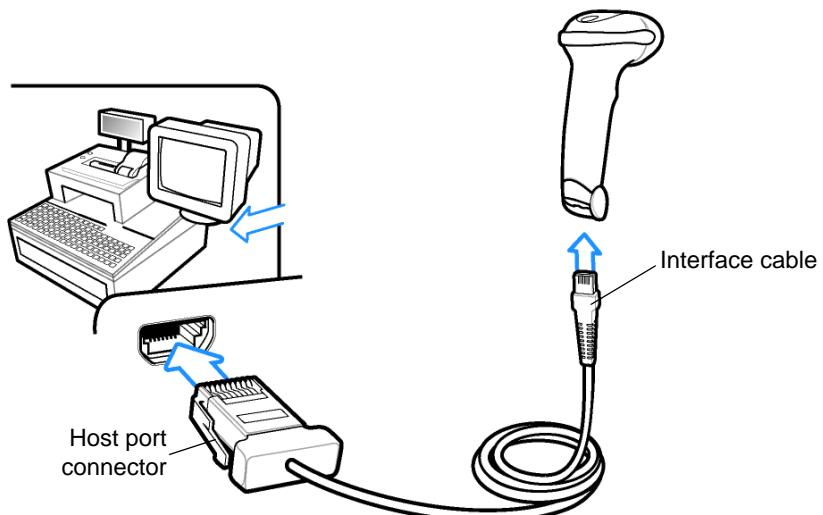

Figure 7-1 IBM Direct Connection
- ✓ **NOTE** Interface cables vary depending on configuration. The connectors illustrated in Figure 7-1 are examples only. The connectors may be different than those illustrated, but the steps to connect the digital scanner are the same.